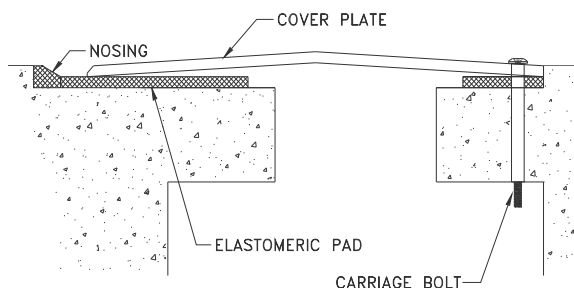

Figure 18
**STEP 38.** Place the cover plate into its installed position. If anchor sleeves have been installed, align the anchor holes in the cover plate with the anchor sleeves cast into the concrete. Select a bolts for each anchor hole in the cover plate. Place a bolt through the plate and into each of the sleeves along the plate (see Figure 18).